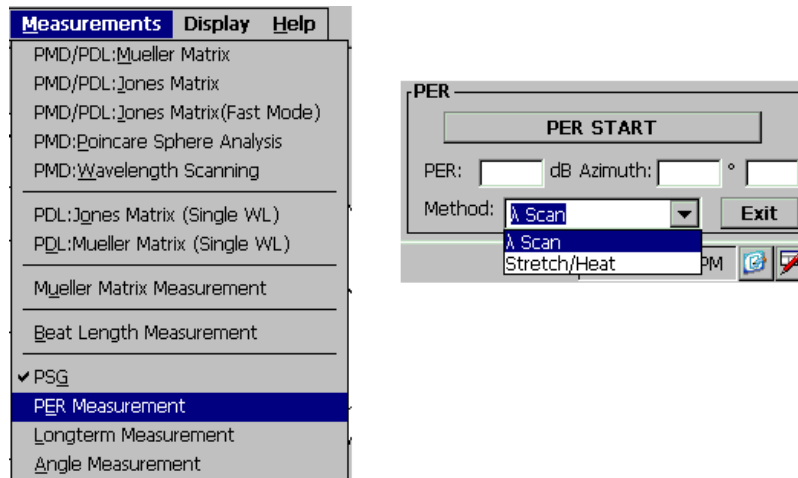

Figure 32 PER measurement selection
- Select “**PER Measurement**” from the “**Measurements**” menu (Figure 32).
- As mentioned in the previous section, PER is determined by measuring output polarization rotation caused by changes in the relative phase between the two polarization components. The changes in relative phase can be caused either by variation in input wavelength or by changes in the fiber's optical path length. The PSGA's measurement method options are based on these two principles. In the **Stretch/Heat** method, the input wavelength remains constant, and the user stretches or heats the PM fiber to cause polarization rotation. In the **λ scan** method, the tunable laser is used to scan the input wavelength, while the PM fiber is left unchanged. Select the desired method from the **Methods** pull-down menu in the PER measurement area in the bottom right corner of the main screen (Figure 32).